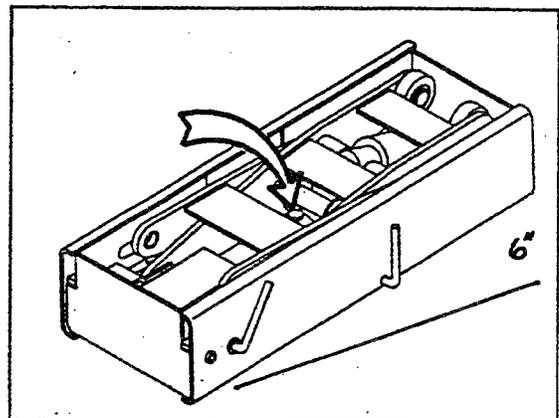

Fig. 2
- 7) Wipe area around filler plug to prevent contamination of oil. Remove filler plug and check oil level (Fig. 2). Oil level should be at the top of the filler plug hole.